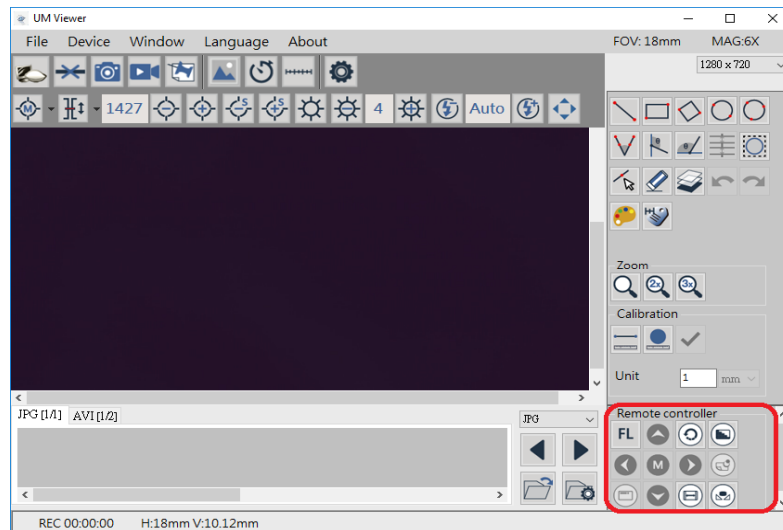

Fig 3-9 Remote Control
(14) EV Increase  : Increase the brightness.
(15) Remote Control  : Click this button to enter Remote Control menu. See Fig 3-9, if the icon is greyed out, means this function does not support this model.